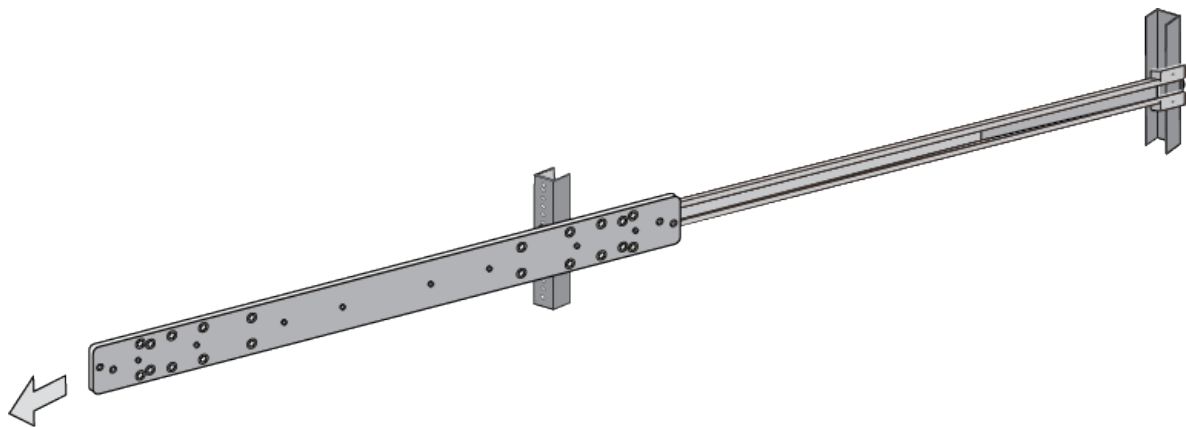

Figure 107. Removing the Inner Rail
4. Remove the inner rail from the outer rail. Refer to Figure 107.